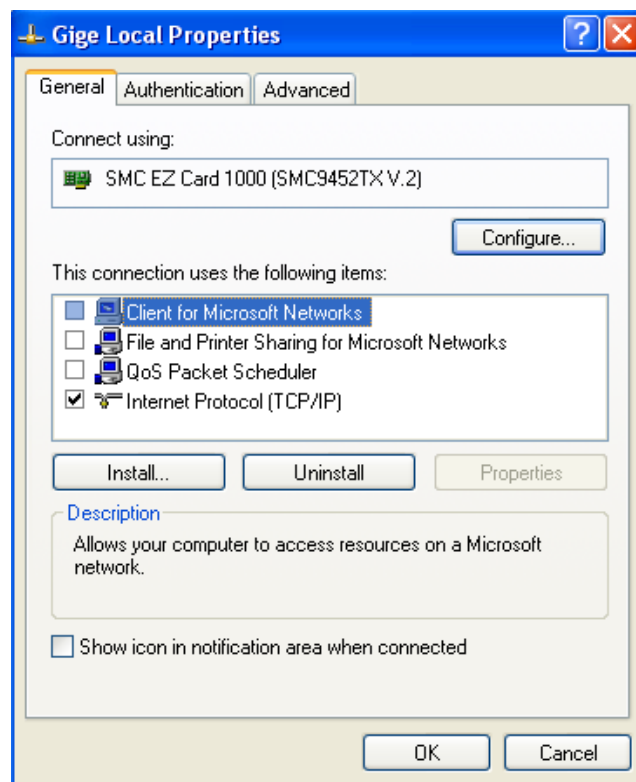

Figure 5. Network card main properties window.
- Once the driver is installed, open the Network Connections Dialog as follows: From the Windows desktop select **start**, then select **Control Panel**, then double click on the **Network Connections** icon. Double click the relevant network card listed or right-click the relevant network card and select **Properties**. This will open the properties window for your network card. See Figure 5.
- Return to the Gige Local Properties window as in Figure 5. Select the Advanced tab as in Figure 7 and disable the Firewall for this device. Click **OK** to save changes.